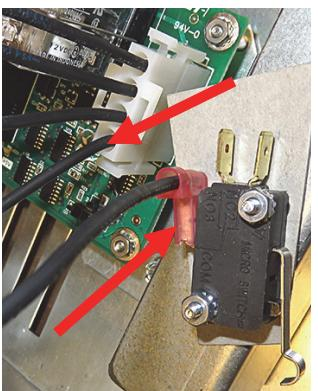

**Figure 21**
25. Plug the 6-pin connector from the previous step into the 6-pin connection on the new circuit board (see Figure 21).